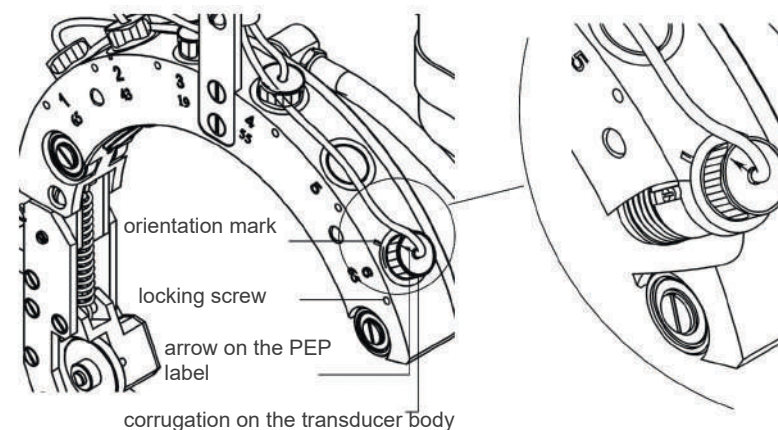

Fig. 5
- holding by the grooved area of the body (**Fig. 5**), turn the probe so that the arrow on the probe label is directed to the orientation mark on the holder,